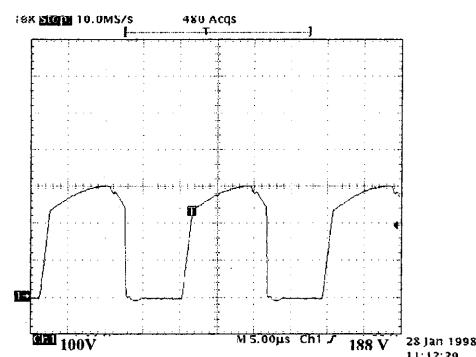

FIG. 10 REF. 1
- the motor fan starts up, and after approx. 2 seconds a wave will appear as in fig. 10.